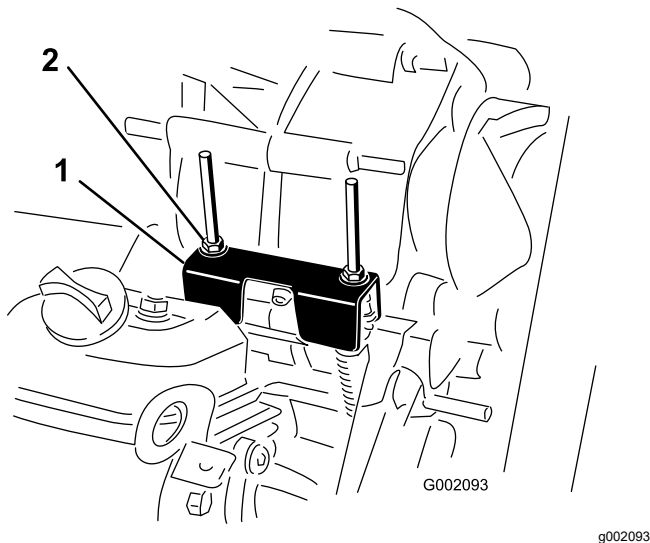

Figure 46
When performing routine maintenance and/or engine diagnostics, the transaxle must be shifted into NEUTRAL (Figure 46). The machine has a NEUTRAL position on the shift lever, which controls the neutral in the transaxle. Perform the following steps to ensure that the neutral shift lever operates the transaxle neutral correctly:
- Ensure that the neutral bracket is in the NEUTRAL position (level to the cable mounting bracket located below the shift bracket) by turning the driven clutch (Figure 46).
- Rotate 1 of the locknuts (Figure 46) to achieve a 0.762 to 1.524 mm (0.030 to 0.060 inch) gap between the bottom of the nut/washer and the neutral bracket.